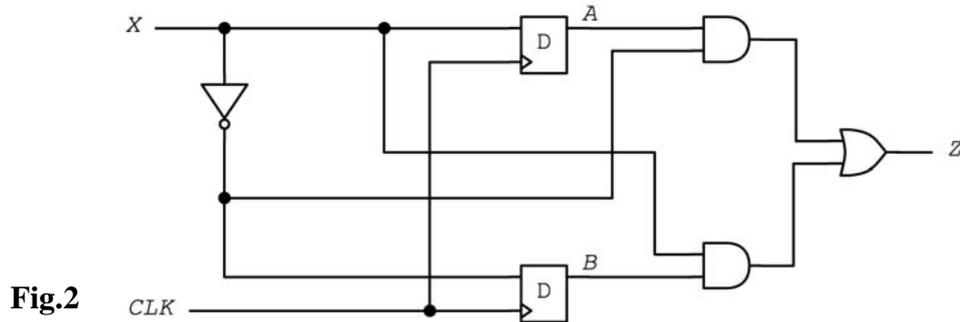

Fig.2
2. Consider the sequential circuit in Figure 2. It has one input signal X that is synchronized with the clock and one output signal Z .